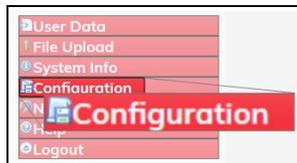

Figure 287: Configuration link
4. On the **Menu** list, click the **Configuration** link. Figure 287